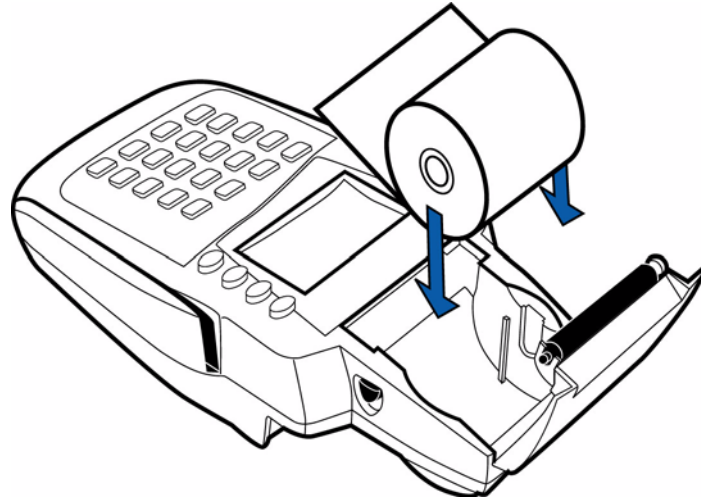

Figure 8 Loading Paper Roll
- 7 Place the paper roll into the paper roll cradle (see Figure 8).